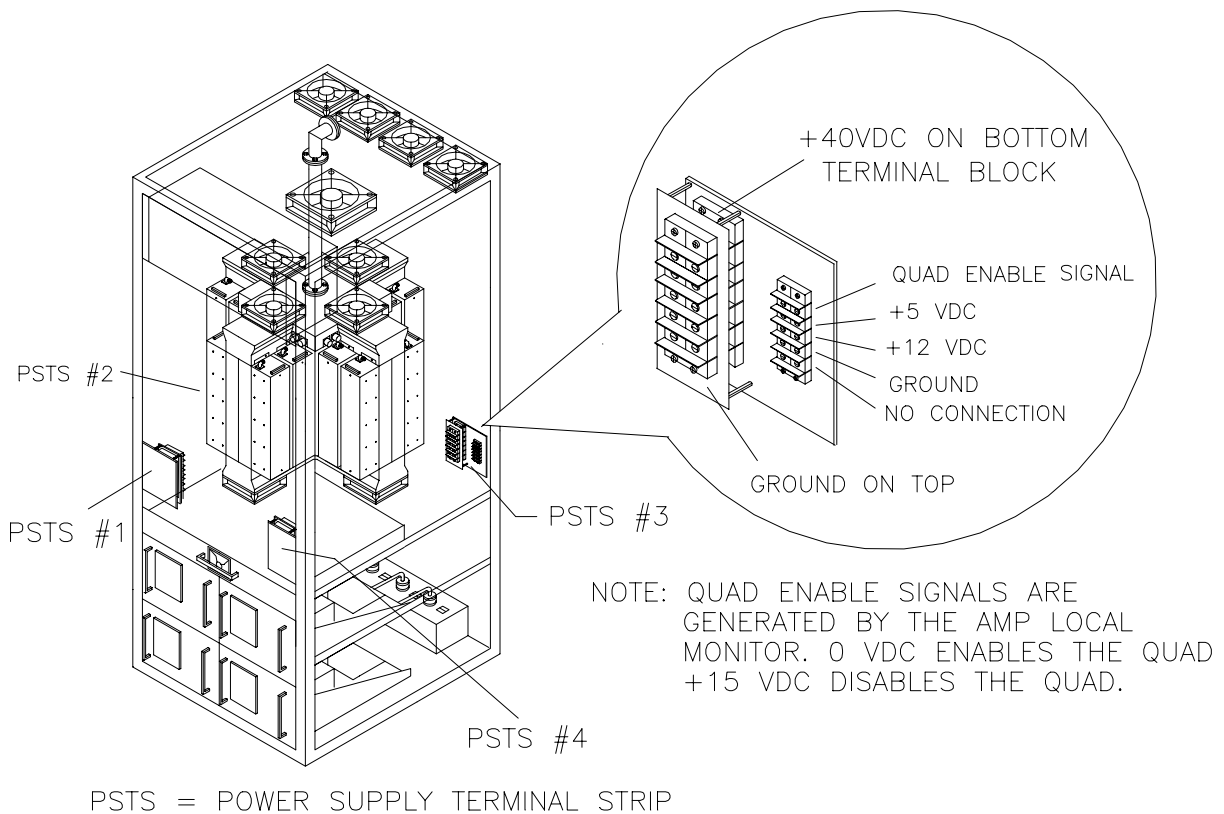

Figure 6-23 Power Supply Terminal Strip Locations and Designations
1. The most obvious indication of a PA Power Supply fault is the illumination of one or more of the *QUAD PS FAULT* LED(s) on the front panel of the Amp Local Monitor (see Figure 6-4). If an LED is illuminated, use a DVM to check the output voltages of the Subsidiary Power Supplies in the drawer corresponding to the number of the illuminated LED. Voltage measurements can conveniently be made at the terminal blocks in the PA Cabinet identified in Figure 6-23.
An understanding of the operation of the PA Power Supply Monitor Board is required for adjusting the Monitor Board circuit and troubleshooting malfunctions. The following discussion is organized according to the functions identified above. Refer to Figure 6-23 for the Monitor Board component layout and Figure 16-24 for the Monitor Board schematic diagram.